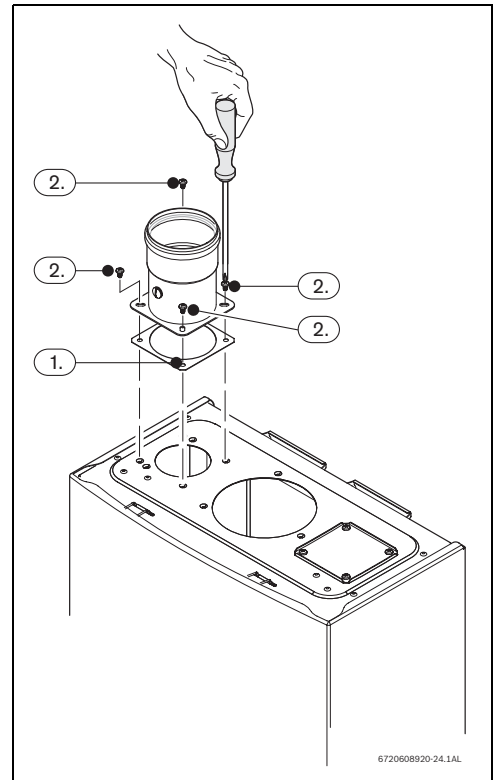

Fig. 29
- Put the gasket between the appliance and the accessory → Fig. 29 , [1].
- Tighten the 4 screws of the accessory of admission of air → Fig. 29 , [2].